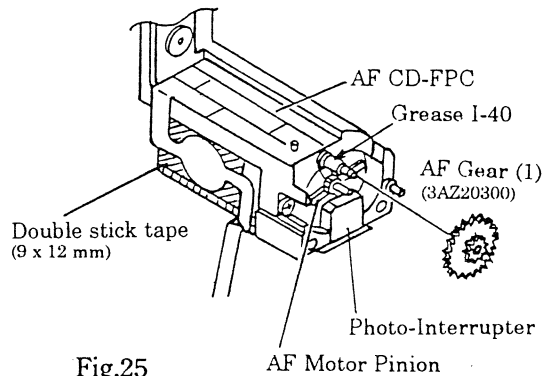
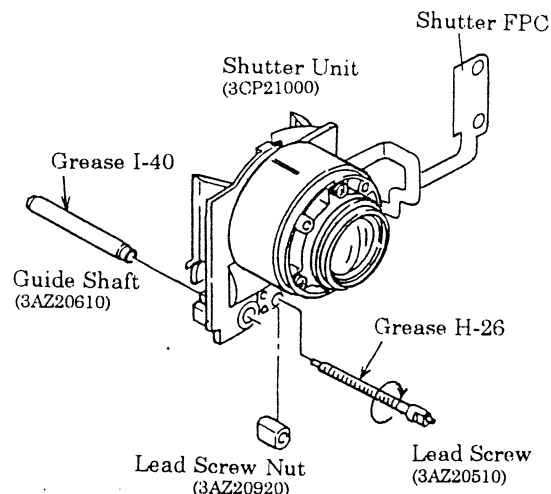

Fig.25
Fig.26
- 1) Attach Double stick tape (9 x 12 mm) on the top of Lens Motor. (See Fig.25)
- 3) Peel off the back paper of the Lens Barrel FPC (3AZ21500) (See Fig.21) and attach the AF CD-FPC in parallel to the AF Motor Holder. In doing so, press the pattern surface of the AF CD-FPC lightly with a lens cleaning paper. (See Fig.25)
- 5) Assemble the AF Gear (1) (3AZ20300).
- 6) Install the Lead Screw Nut (3AZ20510) on the Shutter Unit (3CP2100). (See Fig.26)